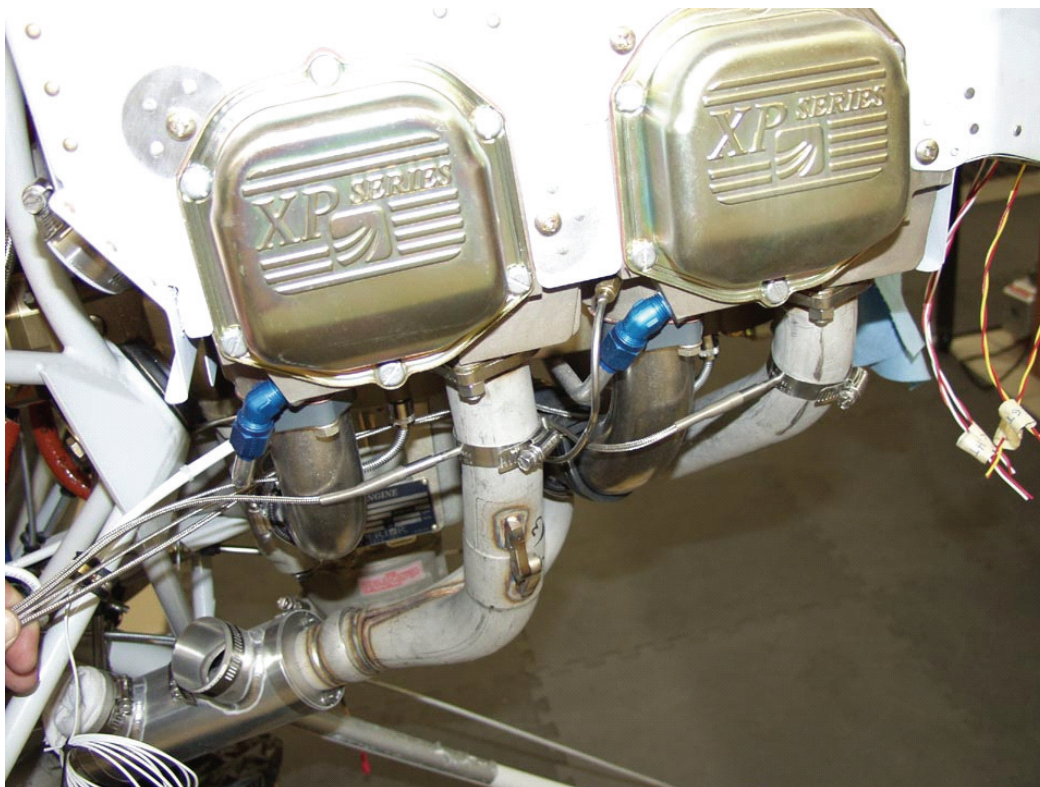

Figure 8-7 Installed EGT Probe Orientation
4. Connect the EGT probes to the thermocouple extension wire. Provide strain relief for the assembly by either fastening the probe leads to the valve covers with a clamp, or by tying the extension wire to the intake tubes or other suitable location. A finger-sized loop should be provided to allow appropriate strain relief, and care should be taken to ensure that no chafing of the wires occurs. See Figure 8-7 for an example of an installed EGT probe.